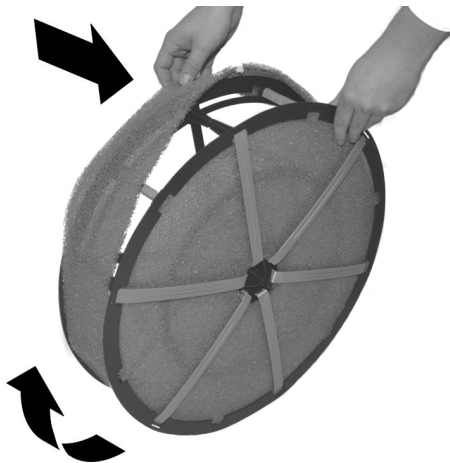

Fig. 27: Laying the outer evaporator filter
- 10.** ➔ Carefully pull the new outer evaporator filter over the filter drum (Fig. 27); it may tear.